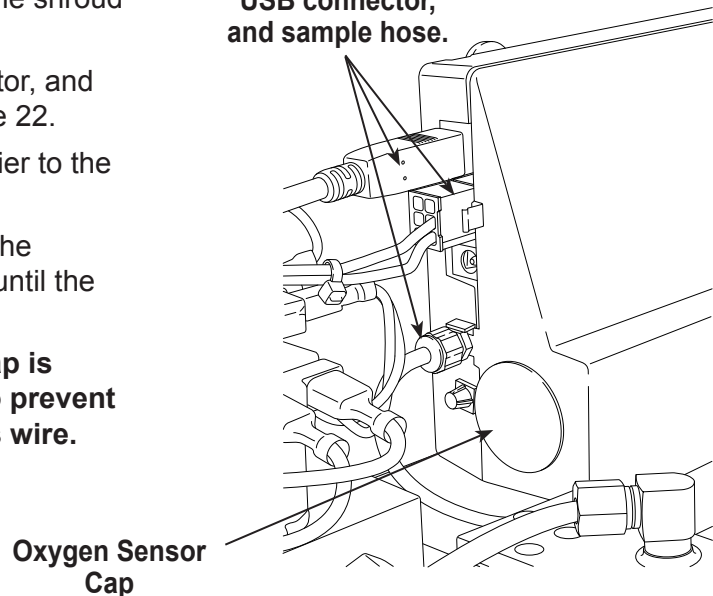

Figure 22
3. Disconnect the wire harness, USB connector, and sample hose from the identifier. See Figure 22.